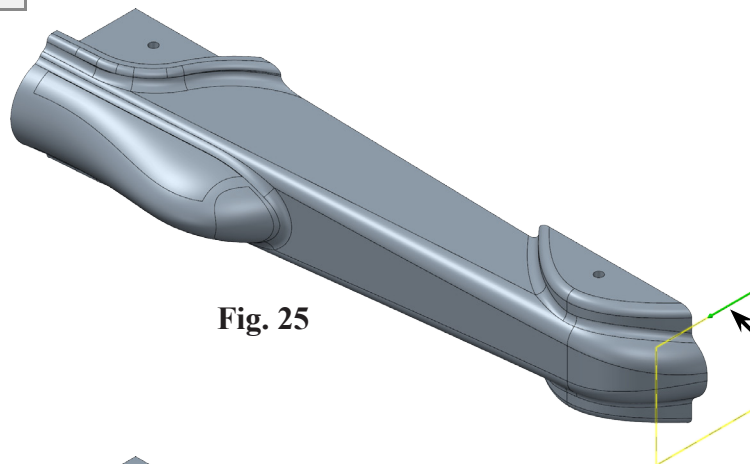

Fig. 25
Step 3. Click **rectangle** to chain, **Fig. 25**.